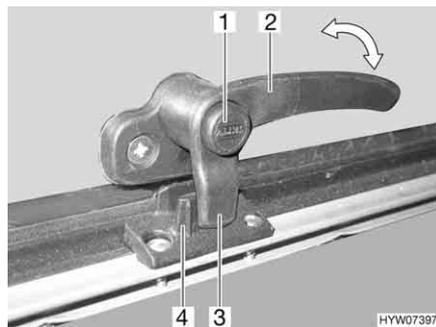
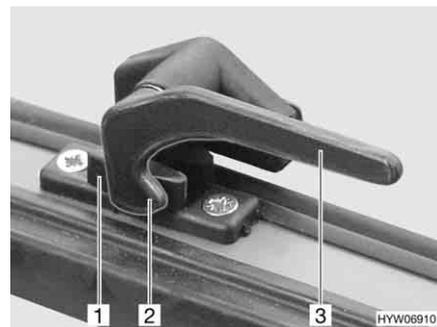

Fig. 107 Catch lever with safety knob in "closed" position
Fig. 108 Catch lever in "closed" position
- Press and hold the security button (Fig. 107,1), if present.
- Turn the catch lever (Fig. 107,2 or Fig. 108,3) a quarter turn towards the centre of the window.
- Turn the catch lever (Fig. 107,2 or Fig. 108,3) a quarter turn towards the window frame. The locking catch (Fig. 107,3 or Fig. 108,2) on the catch lever is entirely on the inner side of the window catch (Fig. 107,4 or Fig. 108,1).
- "Firmly closed" (Fig. 107 and Fig. 108)